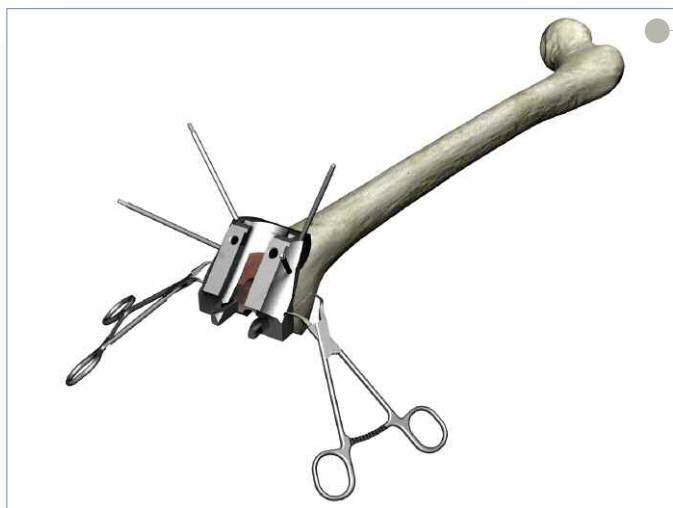

Figure 30
► Once the Notch Block is seated flush against the anterior, anterior chamfer and distal cuts of the femur, drill 1/8" headless pins through the angled holes ("X") on the anterior and/or anterior chamfer surfaces of the block (there are 4 "X" holes each at 15°) (**Figure 30**).